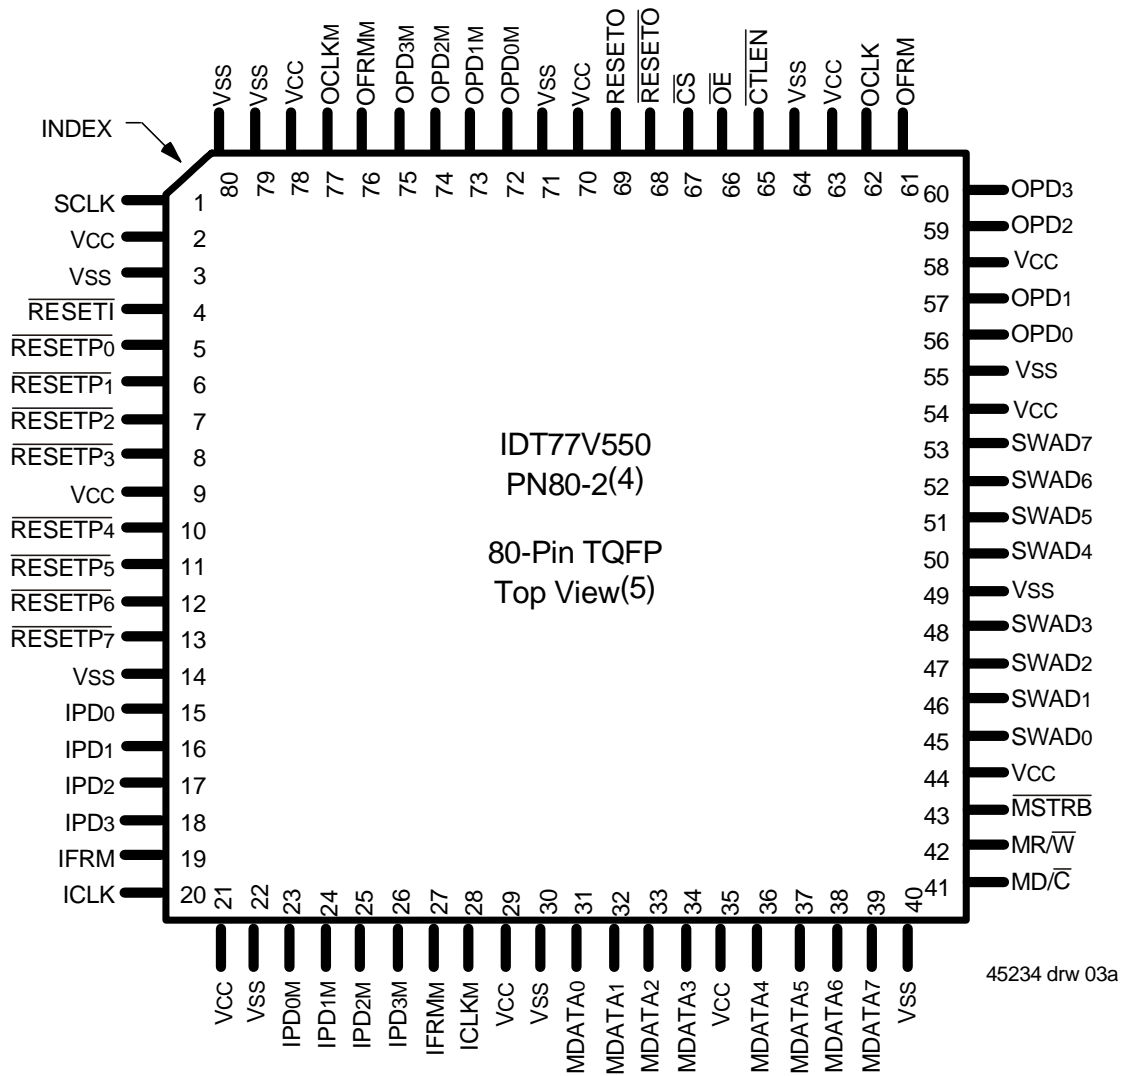

Figure 3 Pin Configuration
**March 26, 2001:** Corrected package dimensions (Note 3 for Figure 3) to read 12 mm x 12 mm x 1.4 mm.